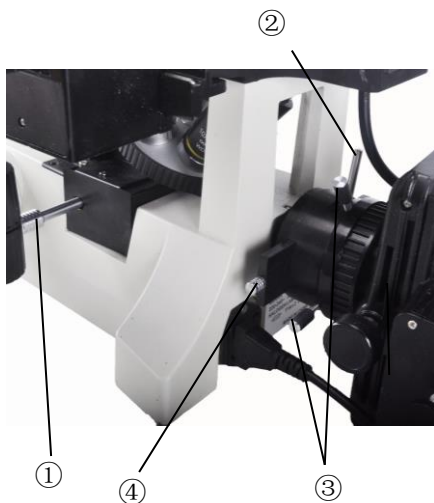
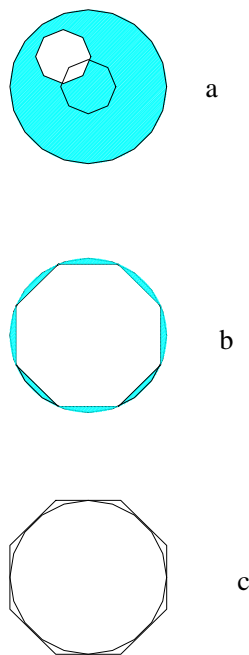

Fig.34
Fig.35
1. Engage the 10X objective in the light path, push in the fluorescent mirror switching lever① to engage the B-excitation mirror into the light path. And set the filter slider the central open position.
3. Turn the field iris diaphragm lever② little by little to confirm the iris diaphragm position.
4. Using the provided wrench, turn the two field iris diaphragm centering screws③ alternately to move the image of diaphragm to the center, as shown in fig.34.
5. Open the field iris diaphragm by the field iris diaphragm lever② to make slight deviation noticeable, adjust the centering precisely.
6. After completion of centering, engage the iris diaphragm diameter until it is just circumscribes the field of view, as shown in fig.35-c.